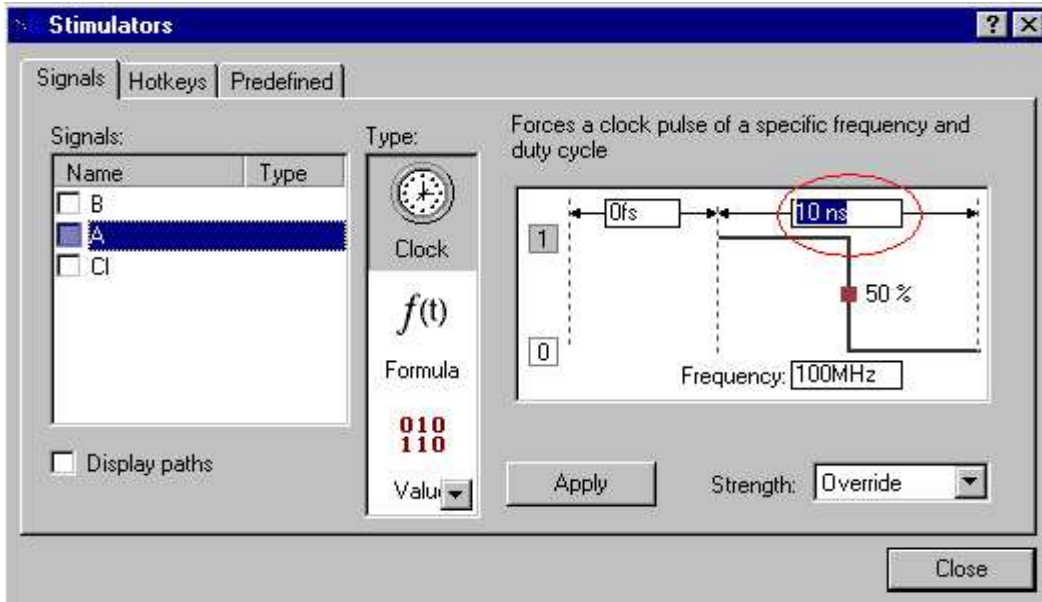

Figure 37
12. With the Stimulators window still opened, you can set additional signals by clicking the signals in the left side of the waveform. Once you have added all three input signals (i.e., A, B, and CI), choose a clock period of 10 ns for A by entering the time in second box from the left at the top of the window (see Figure 37). Click the Apply button.